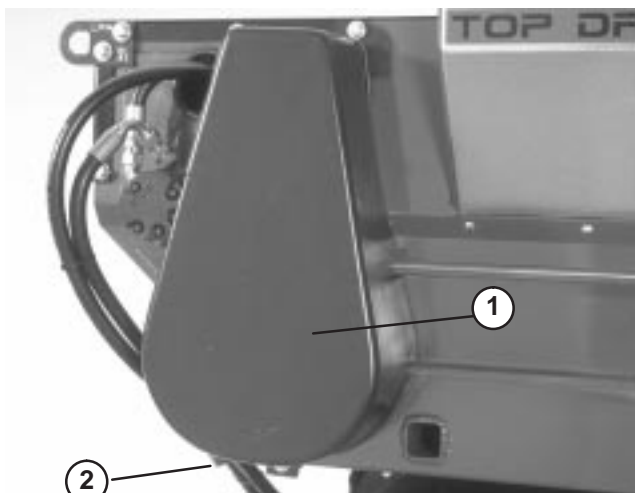

Figure 24
1. Remove chain cover, spacer and finger guard (Fig. 24).